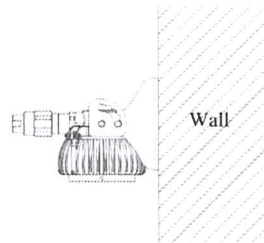
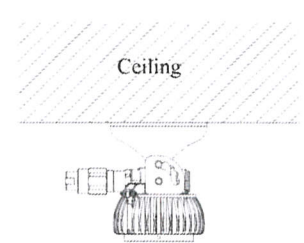

Figure 1
Figure 2
- ☞ The mount bracket is for the use of both Wall mount (Figure 1) and Pendant mount (Figure 2).